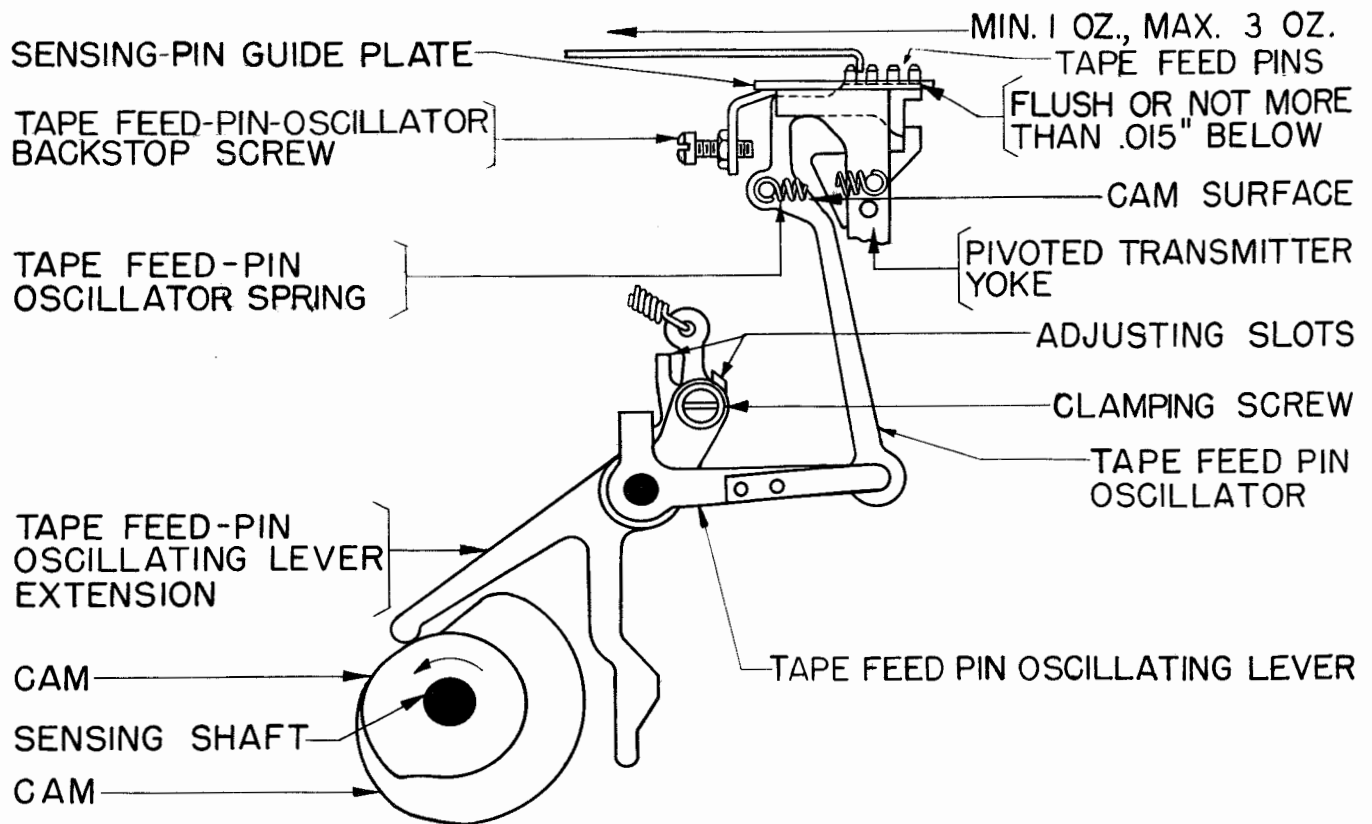

Figure 52
To Adjust: Loosen the tape-feed-pin-oscillator backstop-screw locknut and position the screw. See Figure 52.
(a) The top surface of the tape-feed-pin oscillator in which the tape-feed pins mount shall rise to a point flush with, or not more than 0.015 inch below, the lower surface of the tape-guide channel in the sensing-pin guide-plate at any point during the feeding motion from right to left, when the camfollower tip of the tape-feed-pin oscillating-lever extension is riding firmly on the lower part of its cam. See Figure 52.
2.113 Tape-feed-pin-oscillator Spring: It shall require a pull as indicated in Figure 52 to start the tape-feed-pin oscillator moving.